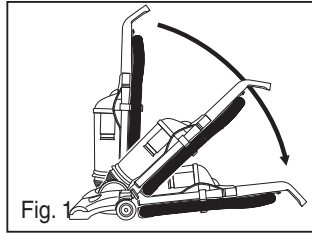

Fig. 1
- 1) Use handle release to lower handle flat onto floor (Fig. 1).
- 1) Remove hose from hose retainer. Flexing the hose will loosen any blockage (Fig. 1).